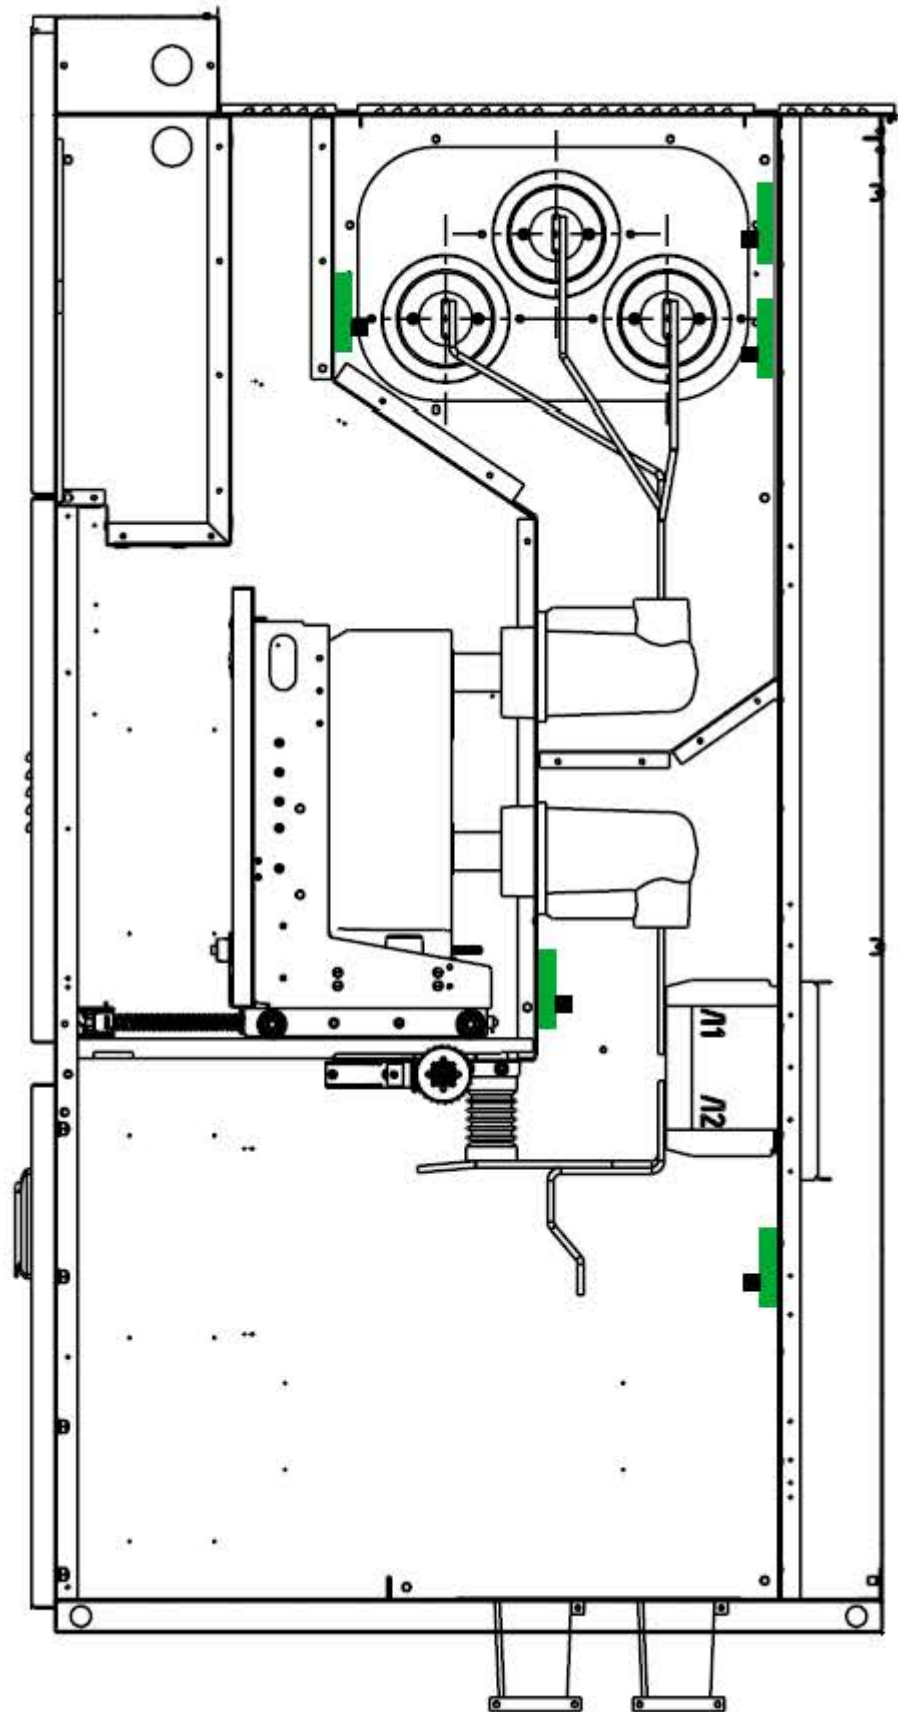

Figure 4.2. The location of ITS sensors in a switchgear panel D12-P series
4.5.4 The recommended location of ITS sensors in a switchgear panel D12-P series is shown on figure 4.2.